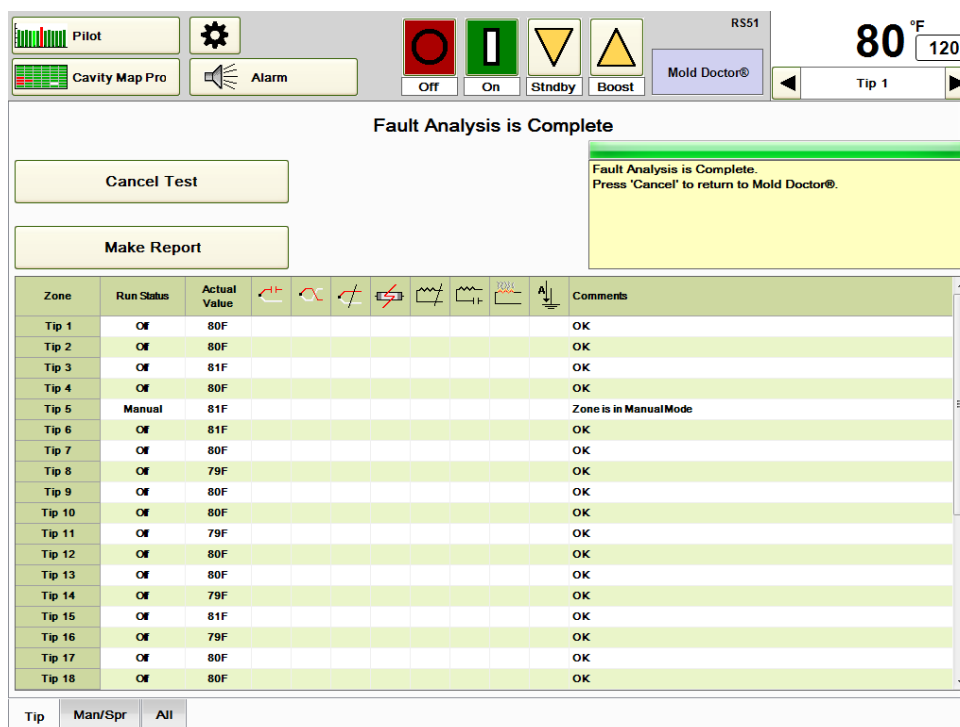

Figure 19e Fault Analysis
- 1) Select the group that is to be tested from the group tabs at the bottom of the screen. Zones that are in manual mode or locked off will not be tested. In the example shown in Figure 19e, Tip 5 is in manual and is not tested.
- 4) The report can be saved by touching the **Make Report** button shown in Figure 19e and choosing USB drive or the D:\G24\Reports directory.